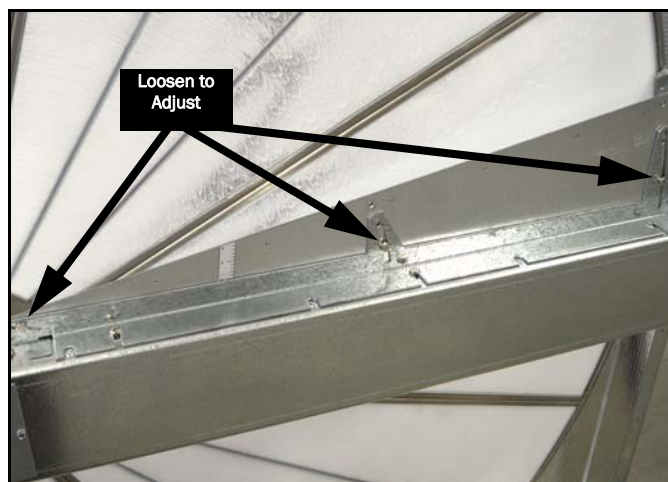

Figure 8 Purge installed on motor side of wheel.
The purge sector is an option available on channeled matrix Airxchange wheels, Figure 8. A "P" in the model number designates that the wheel includes a purge sector.
- 1 Loosen the purge adjusting screws, Figure 8.